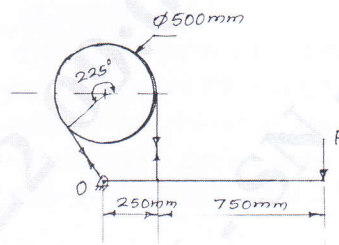

Fig.Q8(b)
- b. A simple band brake shown in Fig.Q8(b) is to be designed to absorb a power of 30 kW at a rated speed of 720 rpm. Determine assuming c.o.f = 0.30